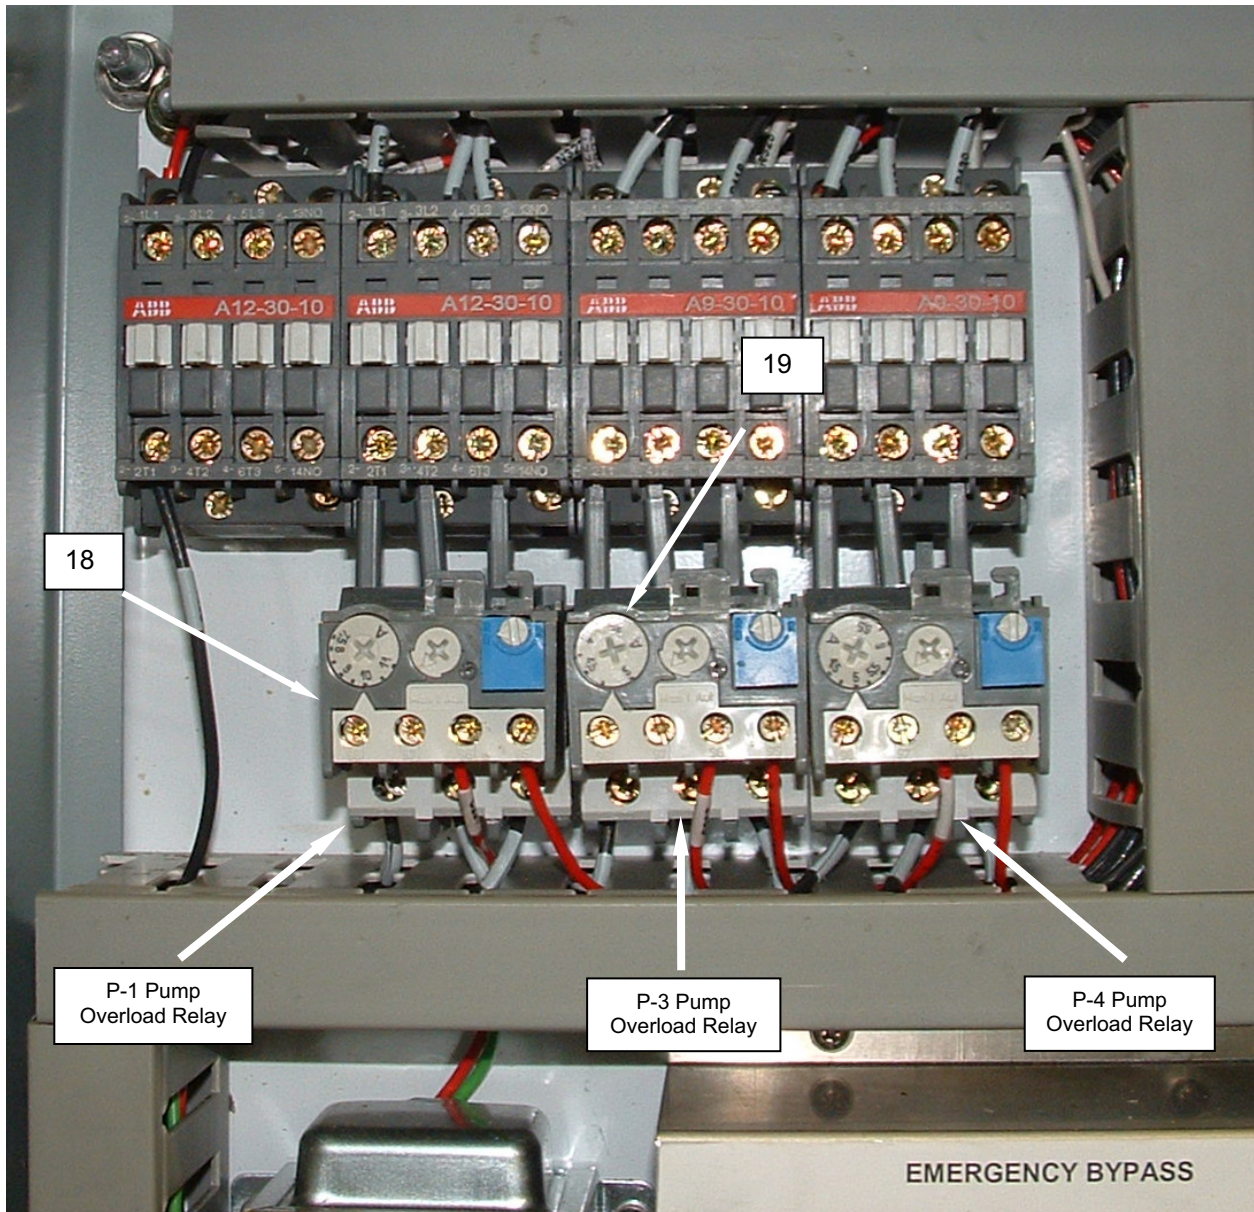

Figure 11. Replace an Overload Relay.
3. Tag and disconnect wiring from the overload relay (**Figure 11, Item 18**).
4. Remove the screws retaining the overload relay (**Figure 11, Item 18**) to the PLC enclosure, and remove the overload relay.
5. Install the replacement overload relay (**Figure 11, Item 18**) and retain with screws.
The replacement overload relay (**Figure 11, Item 18**) must be set for the correct value. The overload relay for the P-1 pump should be set at 9.8 A at the adjustment dial (**Figure 11, Item 19**). The overload relay for the P-3 pump should be set at 4.8 A, and the overload relay for the P-1 pump should be set at 5.0 A.